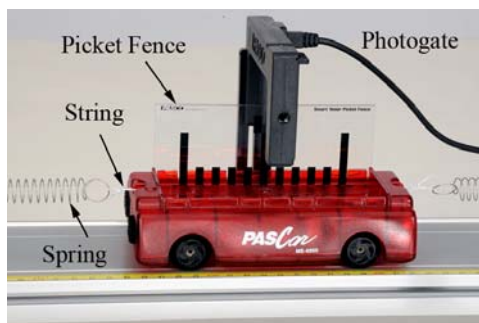
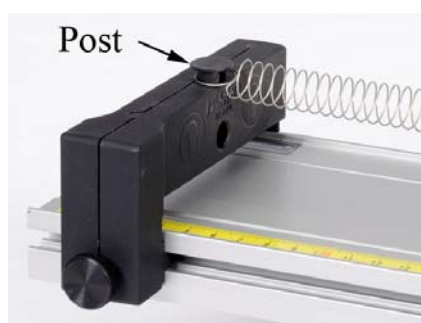

Figure 3. Attaching Springs
Figure 4. Endstop Post
4. It is easier to attach the springs to the cart using a short loop of string as shown in Figure 3. The other end of the spring loops directly over the post on the endstop (see Fig. 4).